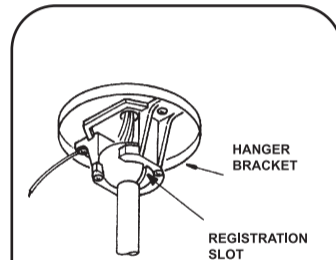

Fig.12
Step 9. Lift the Motor Assembly and place the Hanger Ball into the Hanger Bracket. Rotate the Motor Assembly as needed until the check groove from the Hanger Ball rests firmly over the registration tab from the Hanger Bracket. Motor Assembly should not rotate if this is done correctly. (Fig. 12)